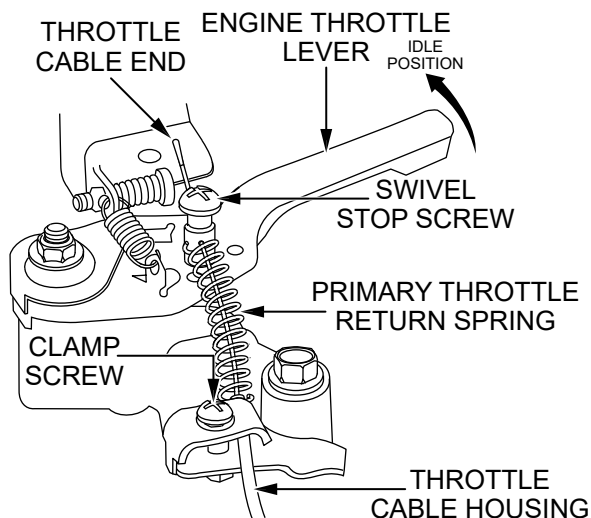

Figure 2. Remove Throttle Cable Assembly
3. Loosen (but **DO NOT** remove) the **swivel stop screw**. See Figure 2.
4. Loosen (but **DO NOT** remove) the **clamp screw** (Figure 2).
5. While holding the **primary throttle return spring** (Figure 2), pull on the **throttle cable housing** to remove the **throttle cable** and cable housing. Discard all three of these components.